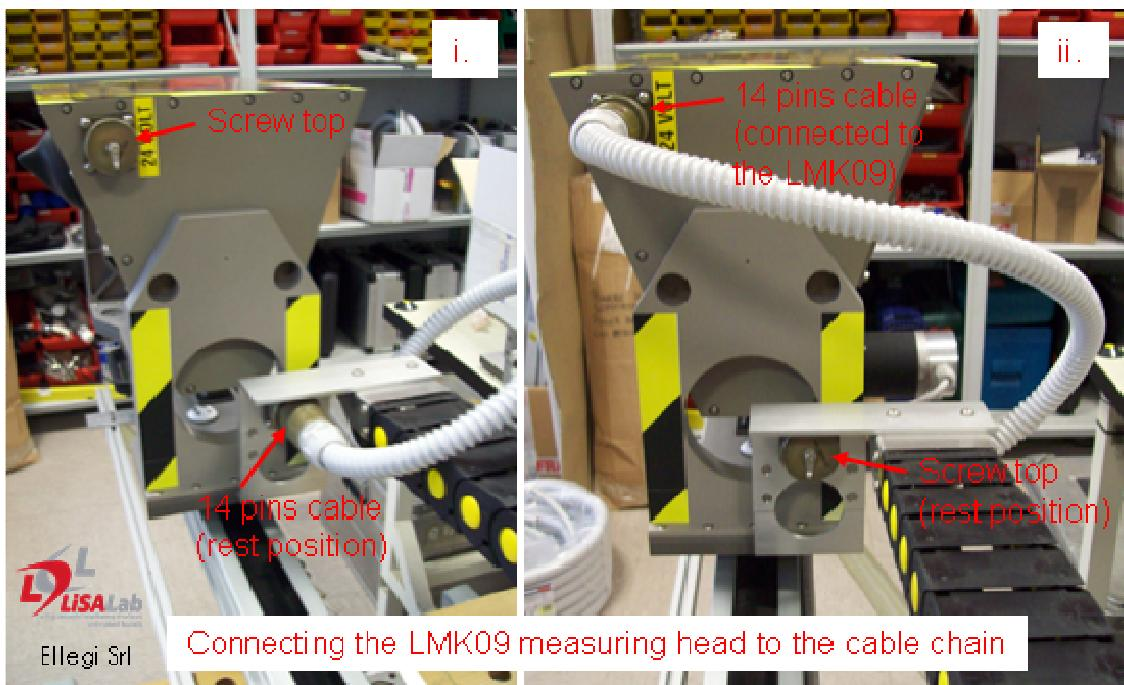

Figure 11: Step 5 of the installation procedure. Connect the measuring head LM to the cable chain.
- Leaving the measuring head in the transport position connect it with the 14 pins standard MIL connector of the cable chain and put the screw top that was on the head plug on the rest plug of the cable chain (Figure 11).